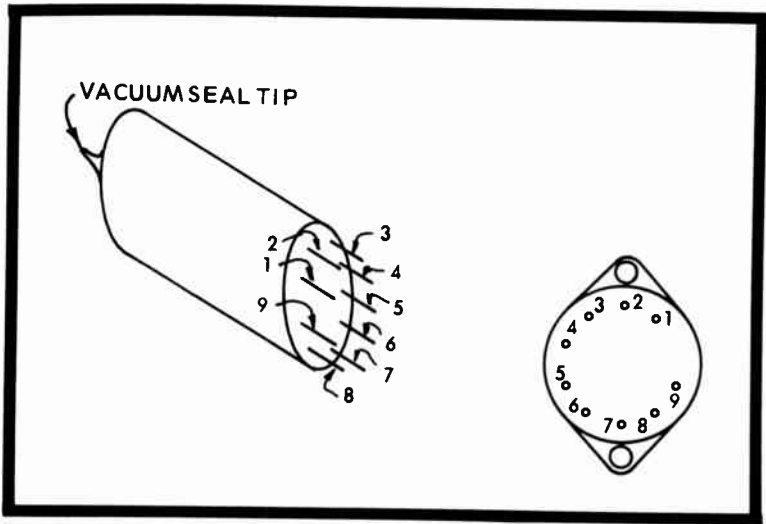

Fig. 5-7. The 9-pin miniature tube and socket are similar to 7-pin tubes.
**Nine-pin miniatures:** Fig. 5-7 shows the tube pin layout and socket of the 9-pin miniature tube type. What has been said about the 7-pin tube and socket applied equally here. Nine-pin tubes are somewhat larger in diameter, too.